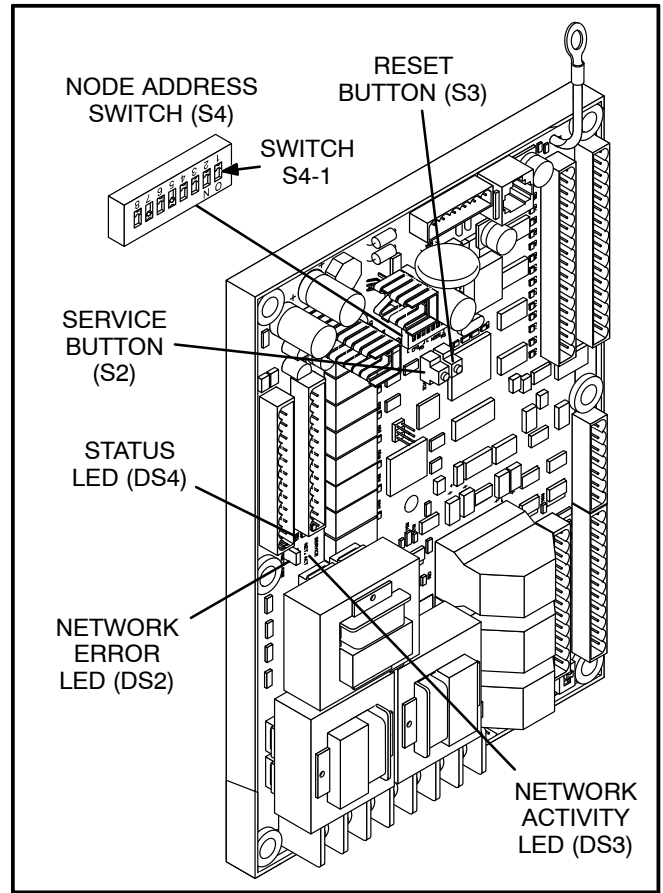

FIGURE 17-4. NODE ADDRESS SWITCH
Each node on a self-installed network must have a unique address. Switches 1 through 4 of switch S4 are used to set the *Node Address* (see Figure 17-4). The default node address is 0010, which is a “STATUS” LED pulse rate of 2.
After the device has been physically installed, the *Node Address* can be verified by counting the number of pulses of the “STATUS” LED (DS4). See Figure 17-4. Make sure each device has a unique node address.
5. Press and hold the Service button (S2) see (Figure 17-4), for approximately two seconds until the *Status* LED (DS4) begins flashing.
To verify the ATS has installed itself properly and is bound to the genset, disconnect the twisted-pair data cable at J30. The “Network Error” LED (DS2) (Figure 17-4) should turn on (red) within 10 seconds. This indicates communications have failed and that the device was properly bound.